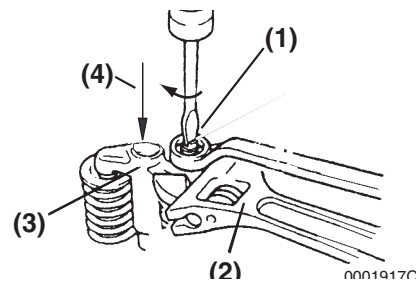
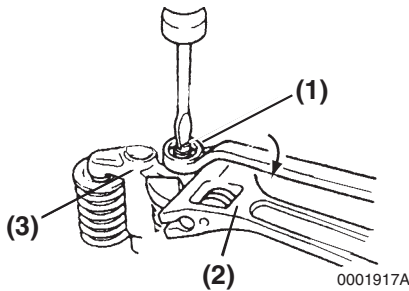
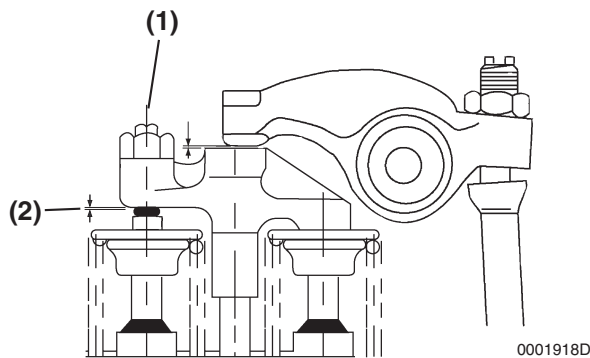

Figure 6-79
Figure 6-80
Figure 6-81
5. To assure the valve bridge contacts the rear valve, apply light, downward (Figure 6-79, (4)) finger pressure on the valve bridge (Figure 6-79, (3)), and loosen the valve bridge adjusting screw (Figure 6-79, (1)), until there is visible clearance (Figure 6-81, (2)) between the adjusting screw and the front valve.
6. To assure the valve bridge has equal contact with the front and rear valves, apply light downward (Figure 6-79, (4)) pressure on the valve bridge (Figure 6-79, (3)), adjust the valve bridge adjusting screw ((Figure 6-79, (1)), (Figure 6-81, (1))) so there is zero "0" clearance (Figure 6-81, (2)) between the adjusting screw and the front valve.
7. Tighten the lock nut (**Figure 6-80, (1)**), while holding the valve bridge (**Figure 6-80, (3)**) with a wrench (**Figure 6-80, (2)**). Verify that the valve clearance (**Figure 6-81, (2)**) is zero "0".